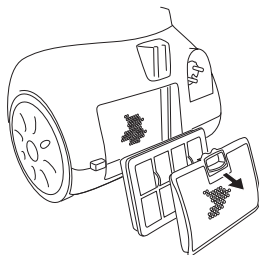

Figure 13 Removing the exhaust filter
2. Open the exhaust-filter cover by pulling on the lip on the cover. Remove the exhaust filter from the appliance, see Figure 13.